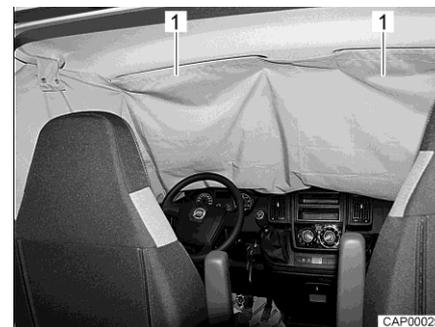

Fig. 23 Cabin black-out shade on windscreen
- Push pockets (Fig. 23,1) of cabin black-out shade over the two sun visors.